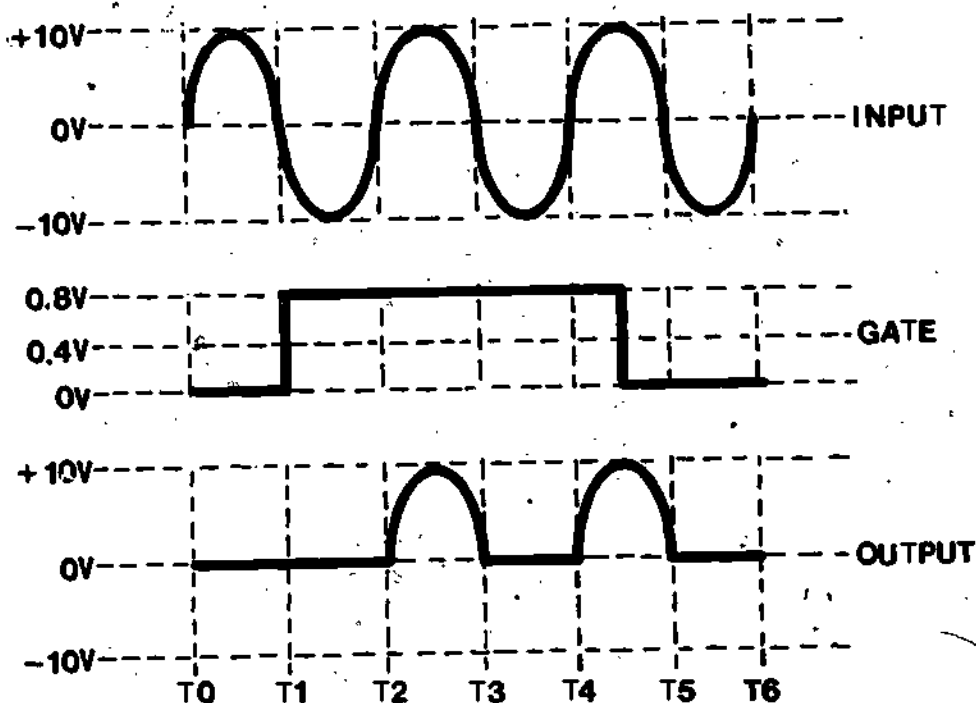

Figure 7
9. Now, let's apply a DC signal to the gate as an AC signal is applied across the anode to cathode of the SCR. The waveforms are illustrated in Figure 7.
Figure 7 shows that, even though the SCR has been forward biased by the AC signal from T0 to T1, there is no conduction. This is due to the fact that there is no positive signal applied to the gate. At T1 the gate voltage is applied at a sufficient level to cause conduction.